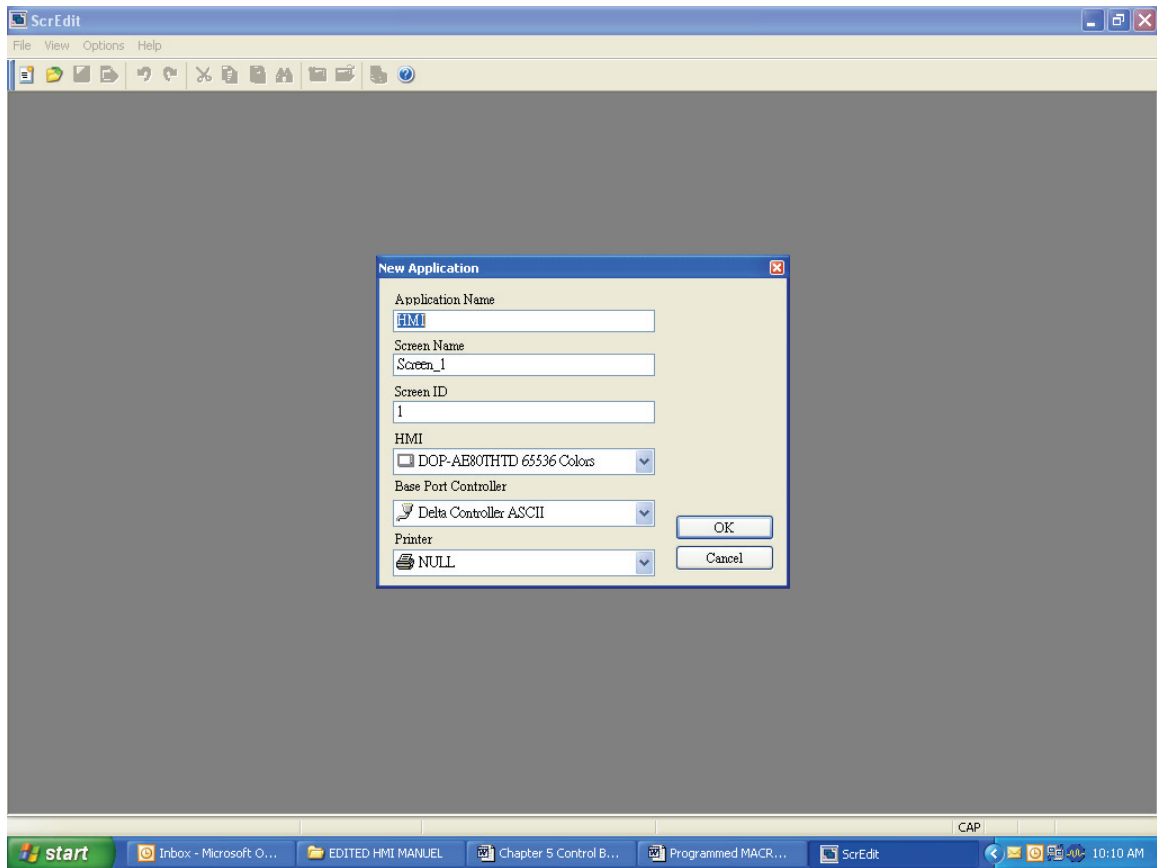

Fig. 7.1
- To start, the user must first make a new file. See Fig. 7.1